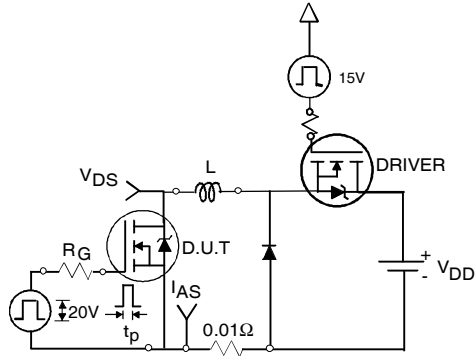

Fig 12a. Unclamped Inductive Test Circuit
- ③ I_{SD} ≤ 101A, di/dt ≤ 210A/μs, V_{DD} ≤ V_{(BR)DSS}, T_J ≤ 175°C
- ④ Pulse width ≤ 400μs; duty cycle ≤ 2%.
- ⑤ C_{oss eff.} is a fixed capacitance that gives the same charging time as C_{oss} while V_{DS} is rising from 0 to 80% V_{DSS}.
- ⑥ Calculated continuous current based on maximum allowable junction temperature. Package limitation current is 75A.
- ⑦ Limited by T_{Jmax}, see Fig.12a, 12b, 15, 16 for typical repetitive avalanche performance.
3. Equation below based on circuit and waveforms shown in Figures 12a, 12b.